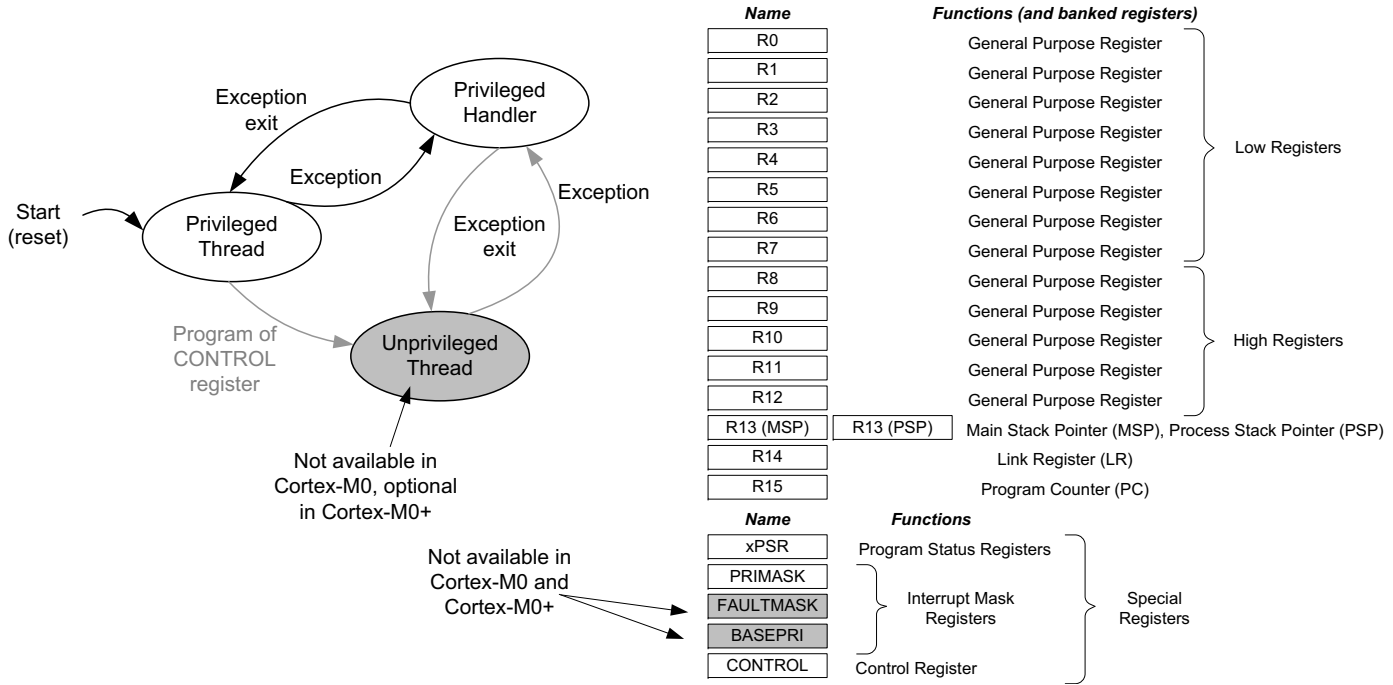

FIGURE 24.3
- Unprivileged level is not available on the Cortex-M0 and is optional on the Cortex-M0+. This also affects bit 0 of the CONTROL register, which is not available if unprivileged level is not present (Figure 24.3).